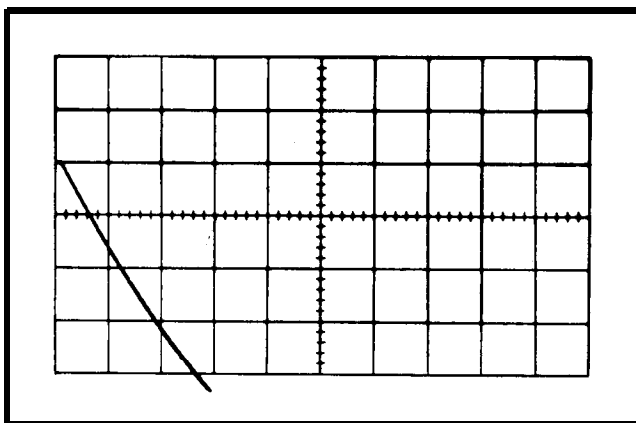

Fig. 6-48. Typical CRT display when checking DELAY-TIME MULTIPLIER incremental linearity.
c. Rotate the dial as necessary to position the start of the pulse to the beginning of the sweep (see Fig. 6-48).